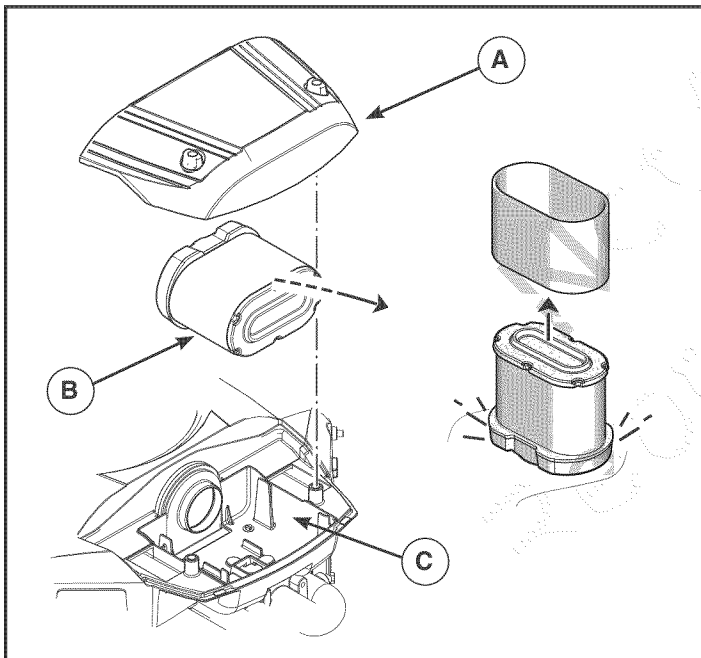

Figure 12
1. Unscrew and remove cover (A, Figure 12).
2. Remove air cleaner assembly (B) and disassemble.
3. Clean up any possible debris that might get into the carburetor throat (C).